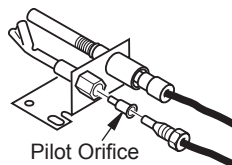

Figure 12 - Installing Propane/LP Pilot Orifice
1. Gently loosen and remove pilot line connection from bracket (see Figure 12).
2. Replace orifice (see Figure 12) with propane/LP pilot orifice with red stripe.